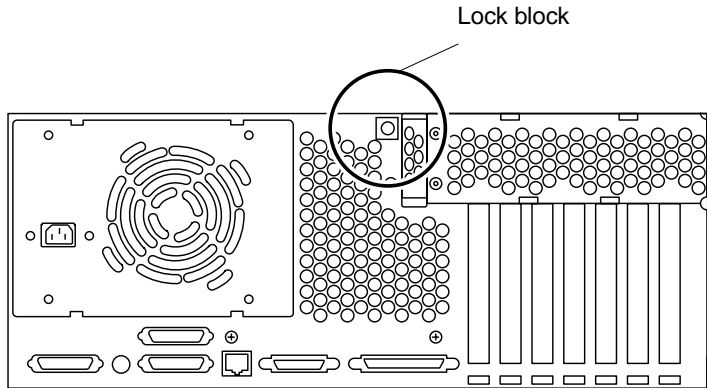

FIGURE 1-9 Lock Block Location (System in Service Position)
3. Replace the lock block using a Phillips-head screwdriver (FIGURE 1-9).